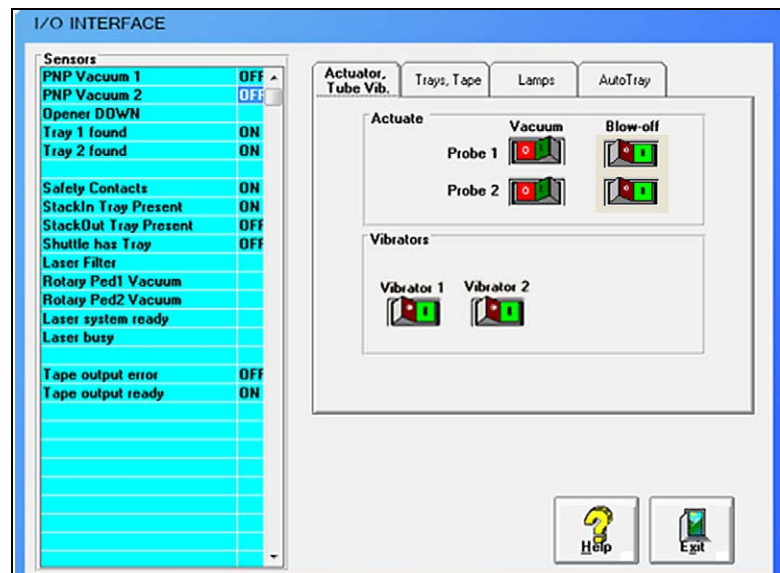

Figure 4-5: Vacuum and Blow-off on the I/O Interface window.
3. Click **Vacuum** to the **OFF** position. Refer to Figure 4-5.